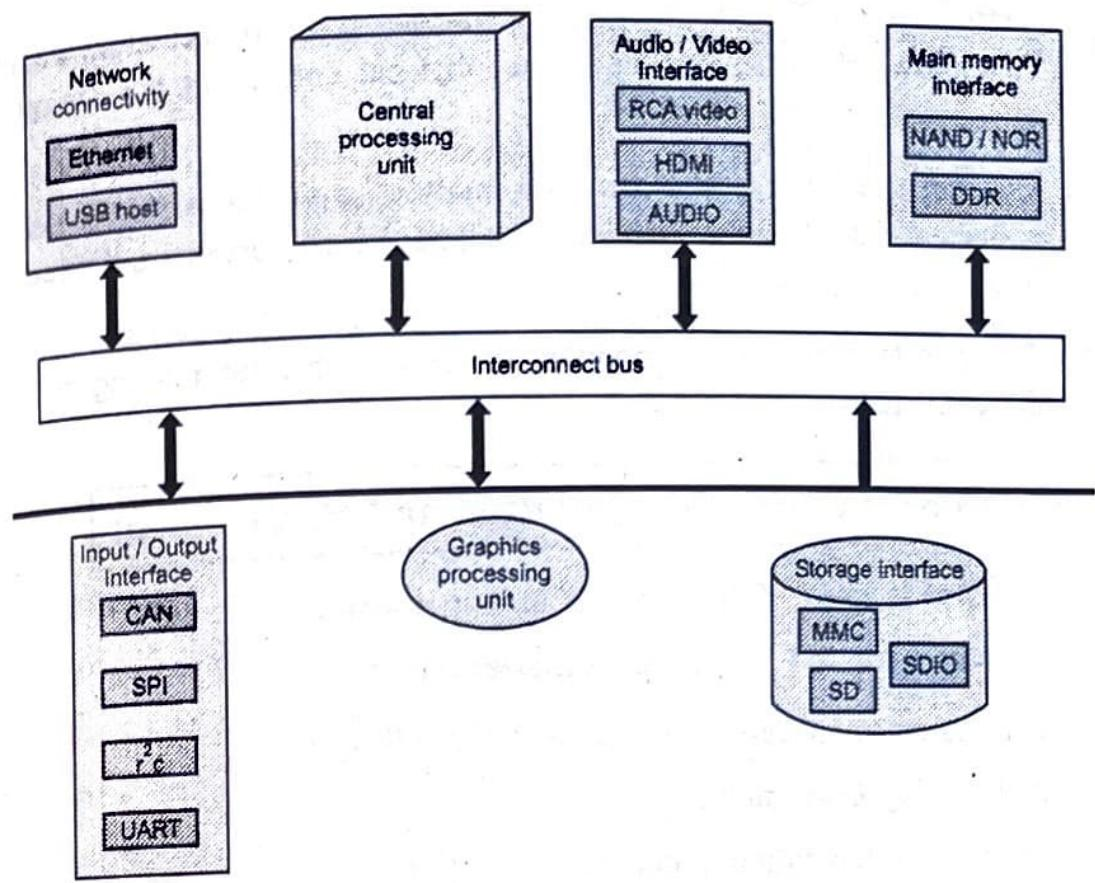

Fig. Q.15.1 Block diagram of IoT device
- IoT devices can exchange data between them and process data or send to centralized location for processing and storage. Fig. Q.15.1 shows block diagram of IoT device.